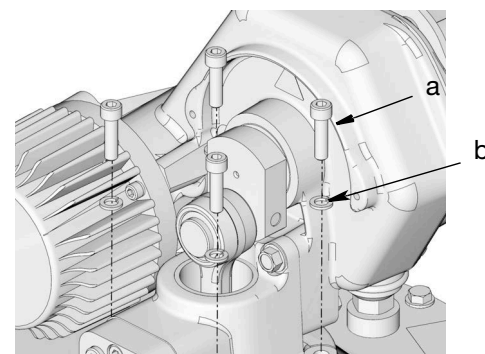

FIG. 8
- Align holes in pump base with holes in tank / reservoir cover (FIG. 8). Securely fasten pump to tank / reservoir cover using screws (a) and washers (b) removed in Step 1, page 8, torque to 28 +/- 3 ft lbs.